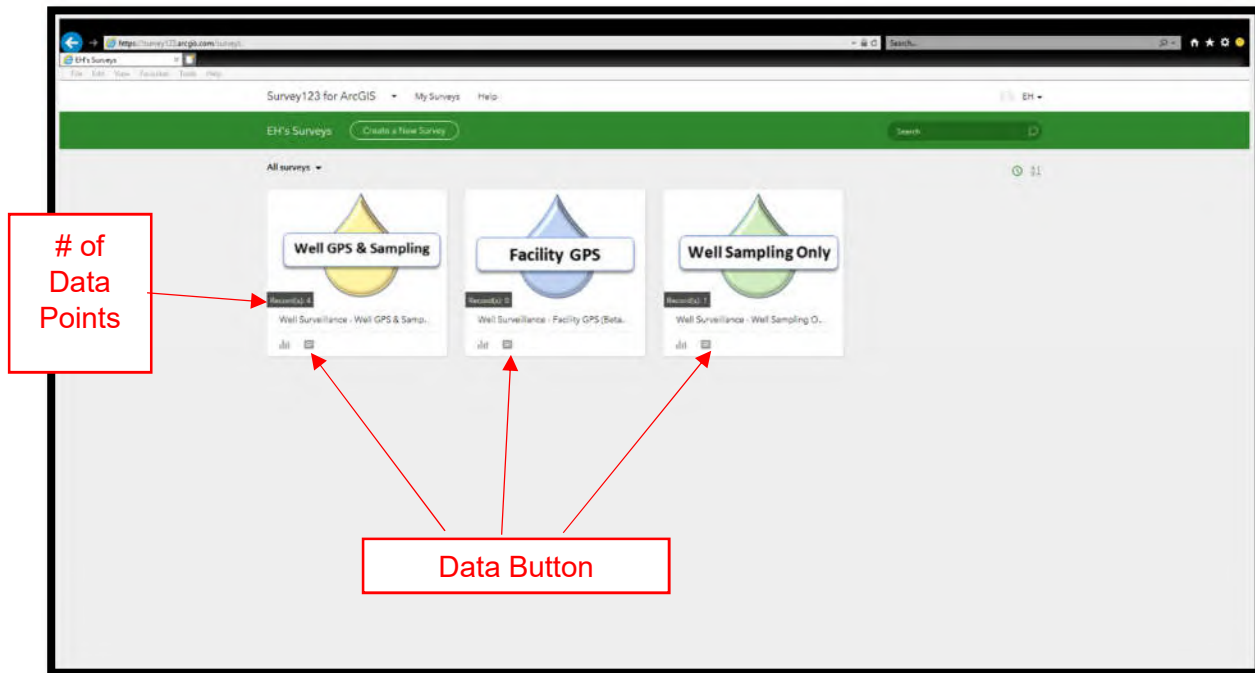
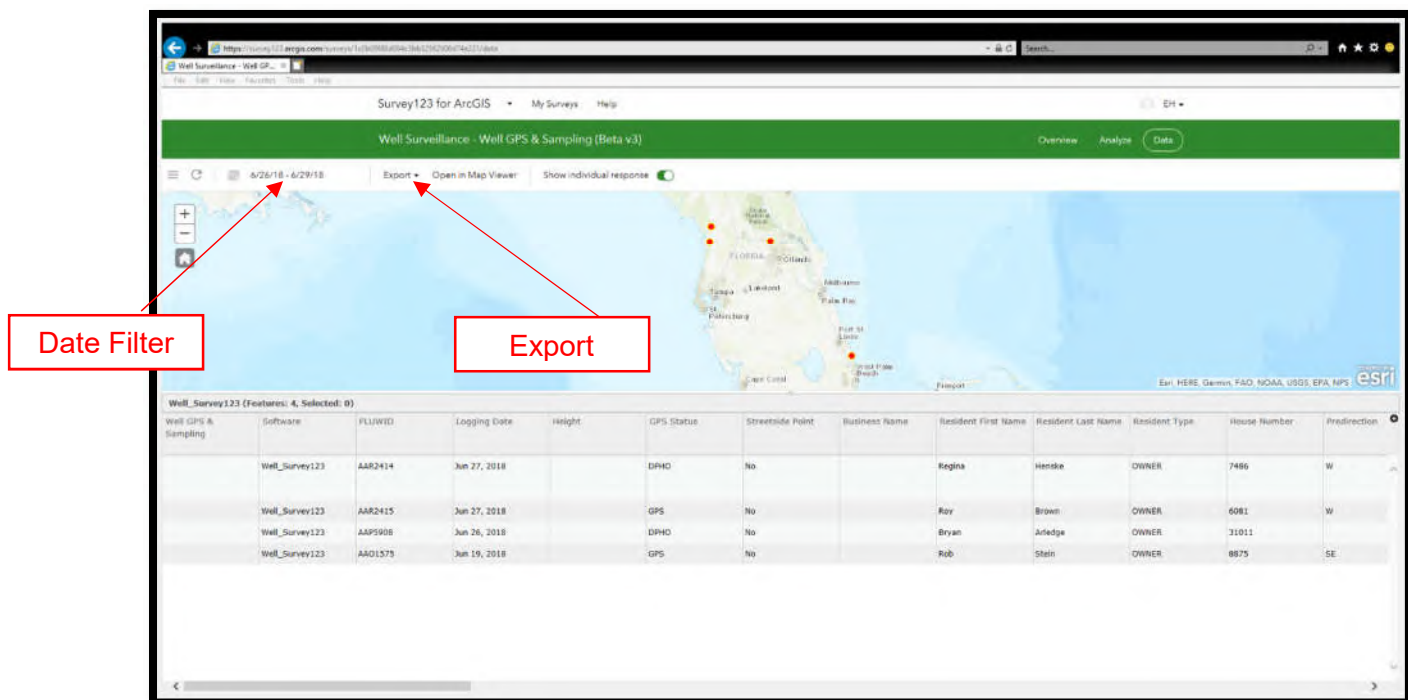

Figure 34- My Surveys Online Screen
Figure 35- All Data Screen
- Click the Data Button on the form that you wish to download data from (Figure 34) to show all data that has been collected using the Survey123 to date (Figure 35).
1. Locate the data point containing the photos from the All Data Screen (Figure 35).